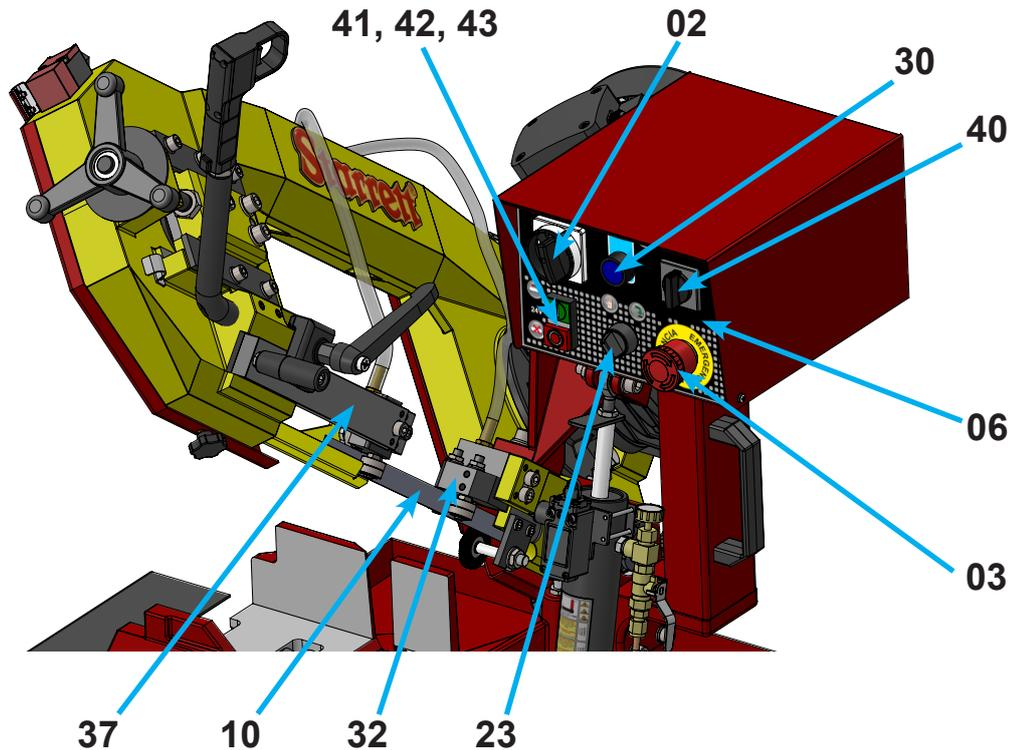

FIGURE 6.4 - CONTROL PANEL AND MAIN SWITCH
The third part comprises the equipment's Safety System. The monitoring function is performed by the Safety Relay – KS1 (28), which oversees the **EMERGENCY** Button – SB1 (03), the Safety Switch – SQ1 (29) on the Back Cover (18), and the Contactors KM1 (26) and KM2 (27). A RESET Button – SB3 (30) is added to the Safety System to prevent any accidental startup after the machine exits **EMERGENCY** mode (figure 6.4).
Located on the Control Panel (06) (figure 6.4), there is a Main Switch (02) that protects the user during maintenance by completely disabling the Electrical System.
This machine has 2 cutting speeds, which can be selected using the Speed Switch (40), located on the Control Panel (06) (figure 6.4).